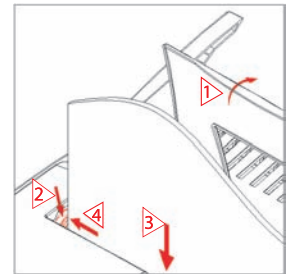

Figure-11
- ▶ Insert the document into the **punching slot** for 19/21 holes as shown figure-11.
- ▶ Align the document to the **front paper stopper** left side as shown figure-11.